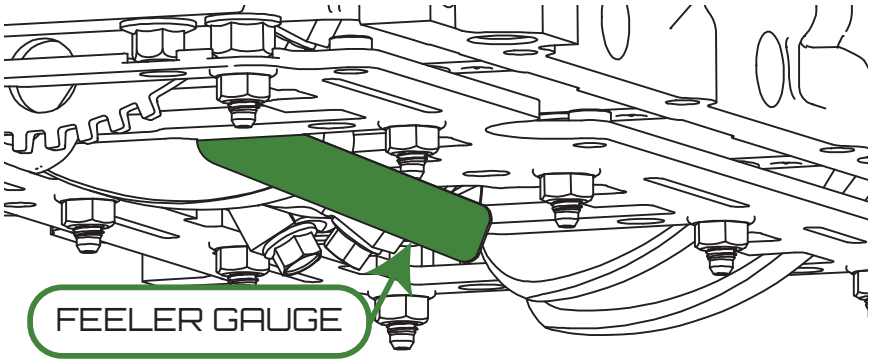

Figure 8 - Inspecting Clearance with a Feeler Gauge
7. Use a feeler gauge set, shown in Figure 8, to carefully measure the gap between the scraper and the rotating assembly in as many positions as possible. Please be thorough!